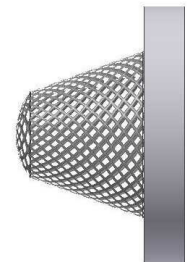
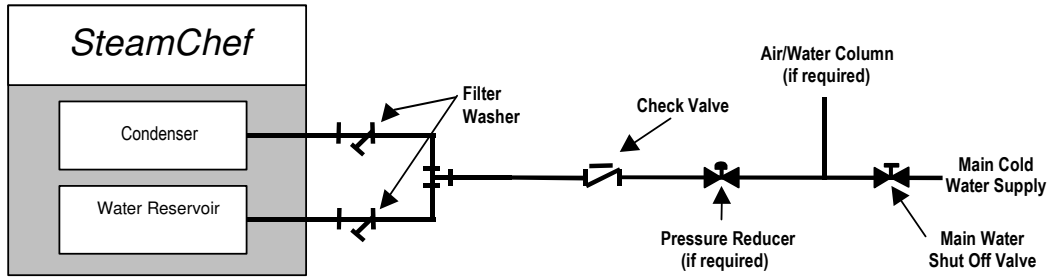
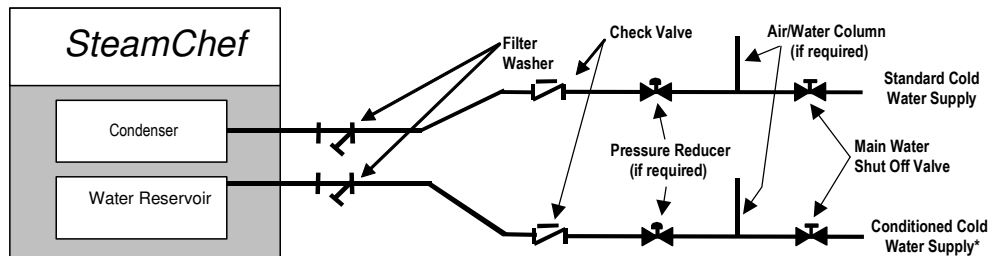

Figure 3-3
Figure 3-4 Cleveland Range Single Water Supply Arrangement
Figure 3-5 Cleveland Range Separate Water Supply Arrangement
- d. If the water supply meets requirements shown in the Warranty then the Single Water Supply Arrangement shown in Figure 3-4 may be used.
- e. If the water supply fails to meet the requirements shown in the Warranty then use the Separate Water Supply Arrangement shown in Figure 3-5.
- 5) Cleveland Range recommends the plumbing layout in either Figure 3-4 for installations using a single water supply or Figure 3-5 if a separate conditioned water supply is used for the water reservoir feed.
- Use two (2) 3/8" supply lines for a separate conditioned water supply.
- Use one (1) 1/2" supply line for a single water supply. Use the Single Point Water Connection Kit (cold water supply splitter) (P/N 111009).
- 9) A Filter Washer is supplied installed in each of the water inlets of this SteamChef (See Figure 3-3, Cleveland Range Part Number 110987.)
11. Refer to Figure 3-5: Connect the drain.